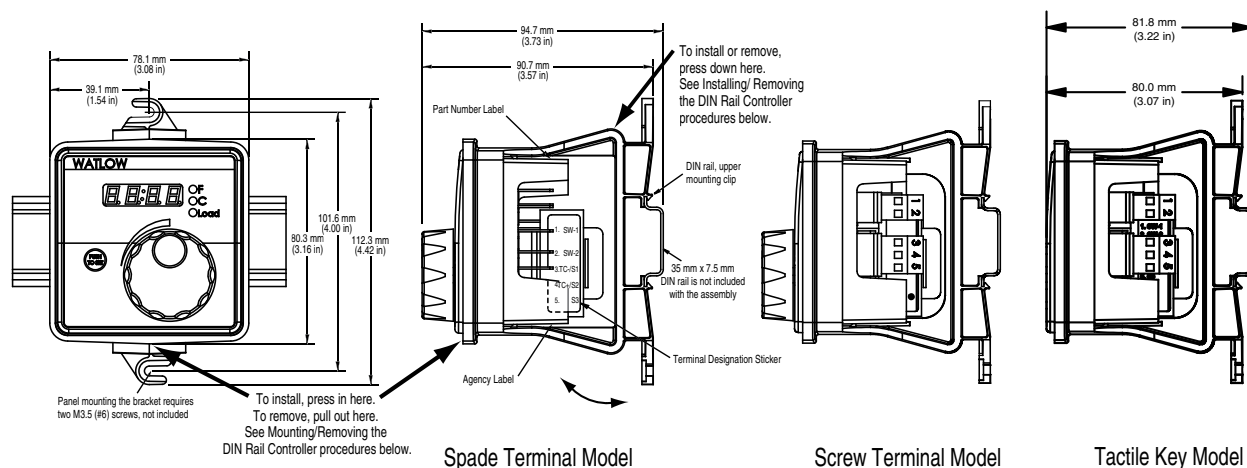

Figure 3a
2. Drill and tap two 2.7 mm (0.106 in) diameter holes in the desired panel location. See Figure 3a above for hole locations.
1. Place the DIN rail upper mounting clip on the top edge of the DIN rail. See Figure 3a. DIN rail spec, DIN 50022, 35 mm x 7.5 mm (1.38 in x 0.30 in).
2. Press down firmly on the top back edge of the DIN rail bracket and push in on the bottom, front edge of the bracket. The controller snaps securely onto the rail. See Figure 3a. If the controller does not snap on, check to see if the DIN rail is bent. Minimum clipping distance is 34.8 mm (1.37 in), the maximum is 35.3 mm (1.39 in).
3. While pressing down on the top, back edge of the DIN rail bracket, pull forward on the bottom, front edge of the DIN rail bracket. See Figure 3a.